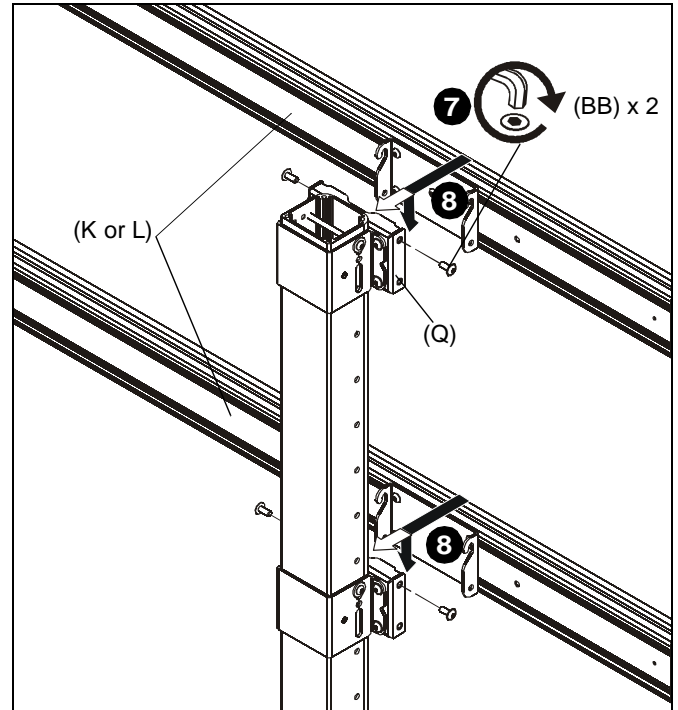
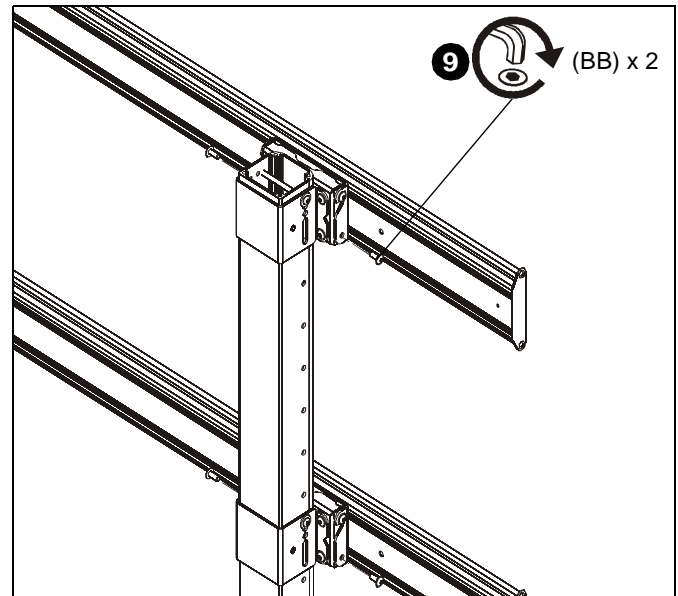

Figure 9
Figure 10
7. Install two 5/16-18 x 3/4" button head flange screws (BB) into the top holes on each quick connect base (Q). (See Figure 9)
8. Hang rails (K or L) into screws installed in previous step to quick connect bases (Q). (See Figure 9)
**IMPORTANT ! :** If installing the triple display rail (L), install rail to left and center columns so that add-on rail can be installed to right column. See Add-On Rail Installation section for details.
9. Install two 5/16-18 x 3/4" button head flange screws (BB) into the lower holes on each quick connect base (Q) to secure rails to quick connect bases. (See Figure 10)
10. Tighten all 5/16-18 x 3/4" button head flange screws (BB).